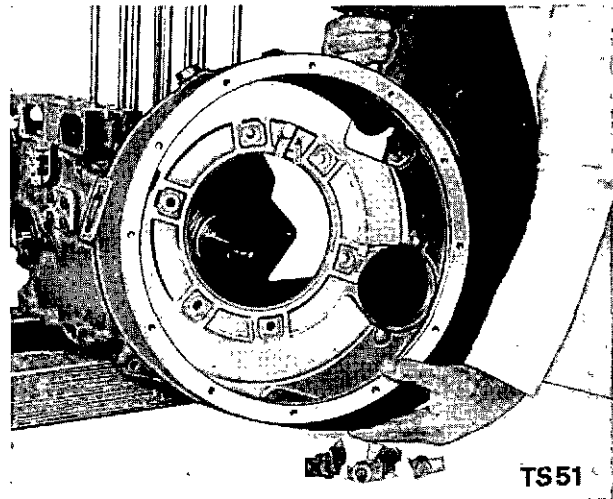

Fig. 103 Removing Fanshroud
- Ease tab washers and remove six securing bolts and then remove the fanshroud (Fig. 103).